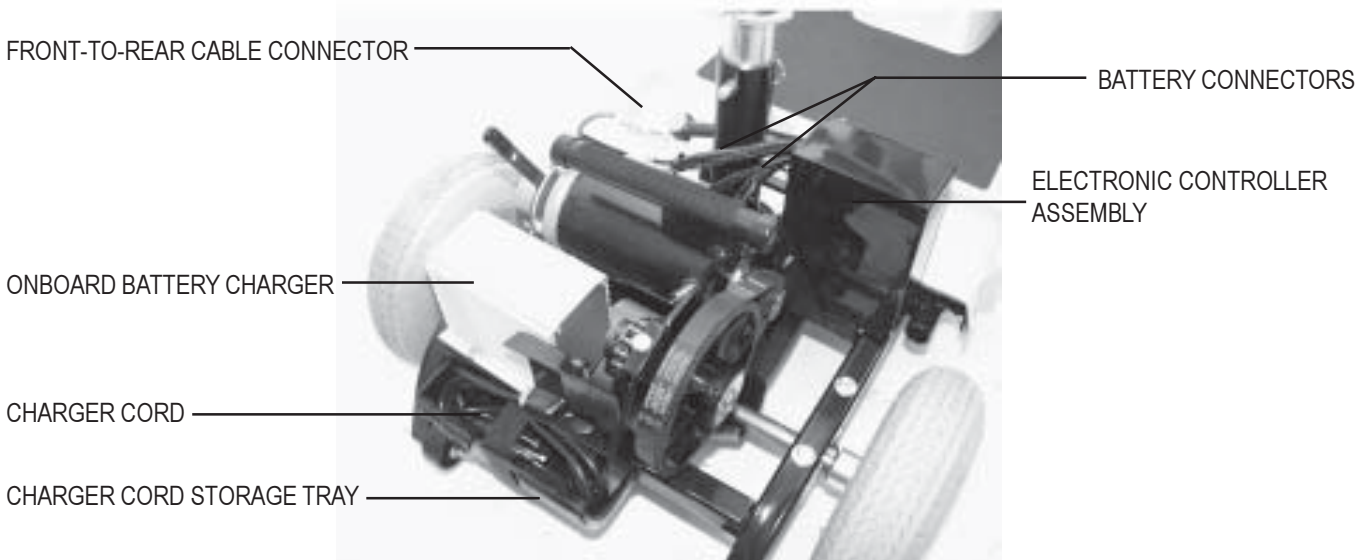

FIGURE 7. ELECTRICAL COMPONENTS
- The charger is located in front of the charger cord storage tray. See figure 7.
Your Dynamo uses two long-lasting, 12-volt, deep-cycle batteries that are sealed and maintenance free. They are recharged by an onboard 3 amp charging system designed for ease of use and convenience. See figure 7.